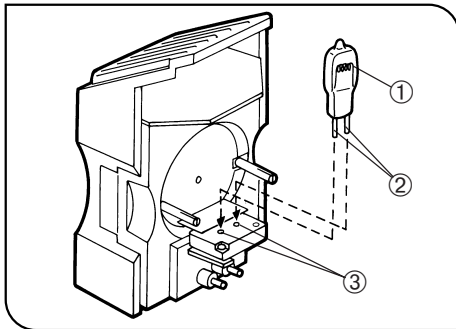

Fig. 29
1 Installing the Bulb and Lamp Socket (Figs. 29 & 30)
1. Holding the bulb ① with a glove or a piece of gauze, insert the bulb pins ② fully into the pin holes ③. (Fig. 29)